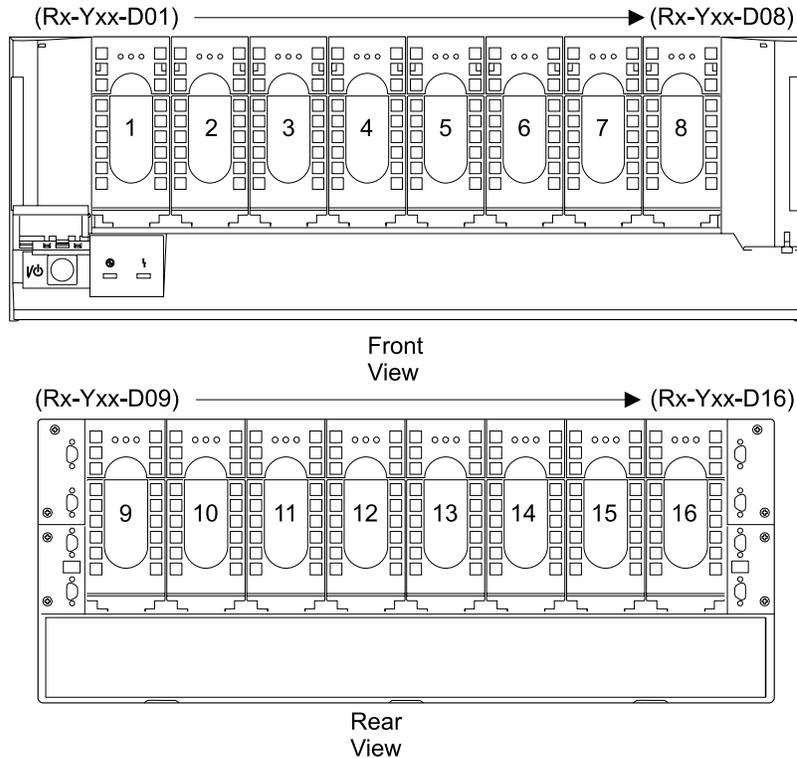

Figure 27. Disk Drive Module Locations in a SSA DASD Drawer (S007705m)
- Use Figure 27 to determine the position of the disk drive modules in a SSA DASD Model 020 and 040 drawer.